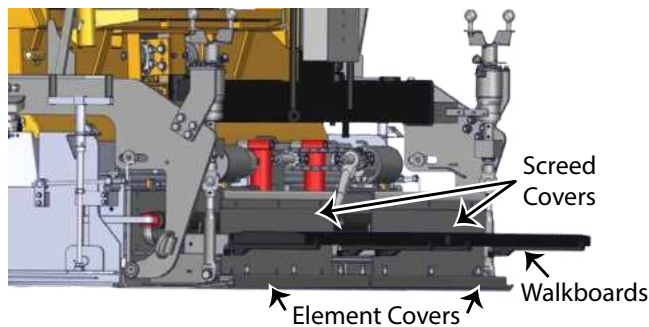

Figure 5-37. Walk Boards and Covers
2. Unbolt and remove the rear walk boards. **(Figure 5-37)**